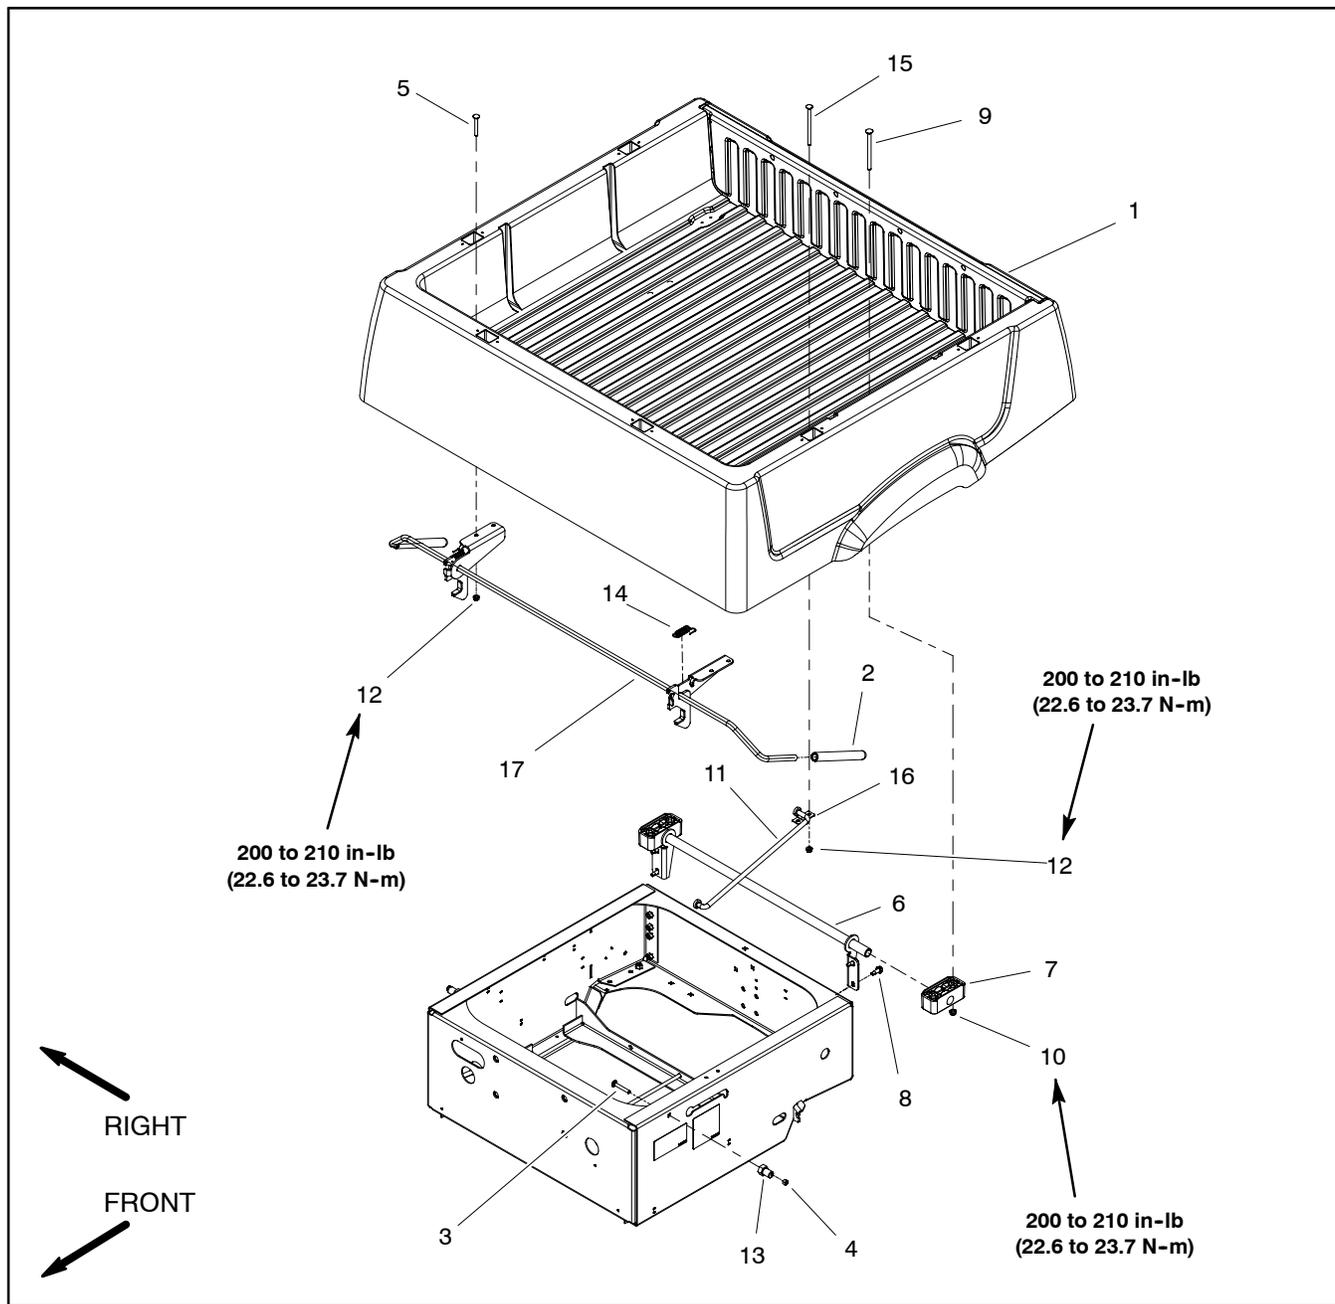

Figure 19
### Removal (Fig. 19)
2. Disassemble cargo box as necessary using Figures 19 and 20 as guides.
### Installation (Fig. 19)
1. Assemble cargo box using Figures 19 and 20 as guides.
- A. When installing cargo box, use torque specifications identified in Figure 19.
- B. Adjust latch pin (item 13 in Figure 19) so that cargo box is tight to frame when latched.